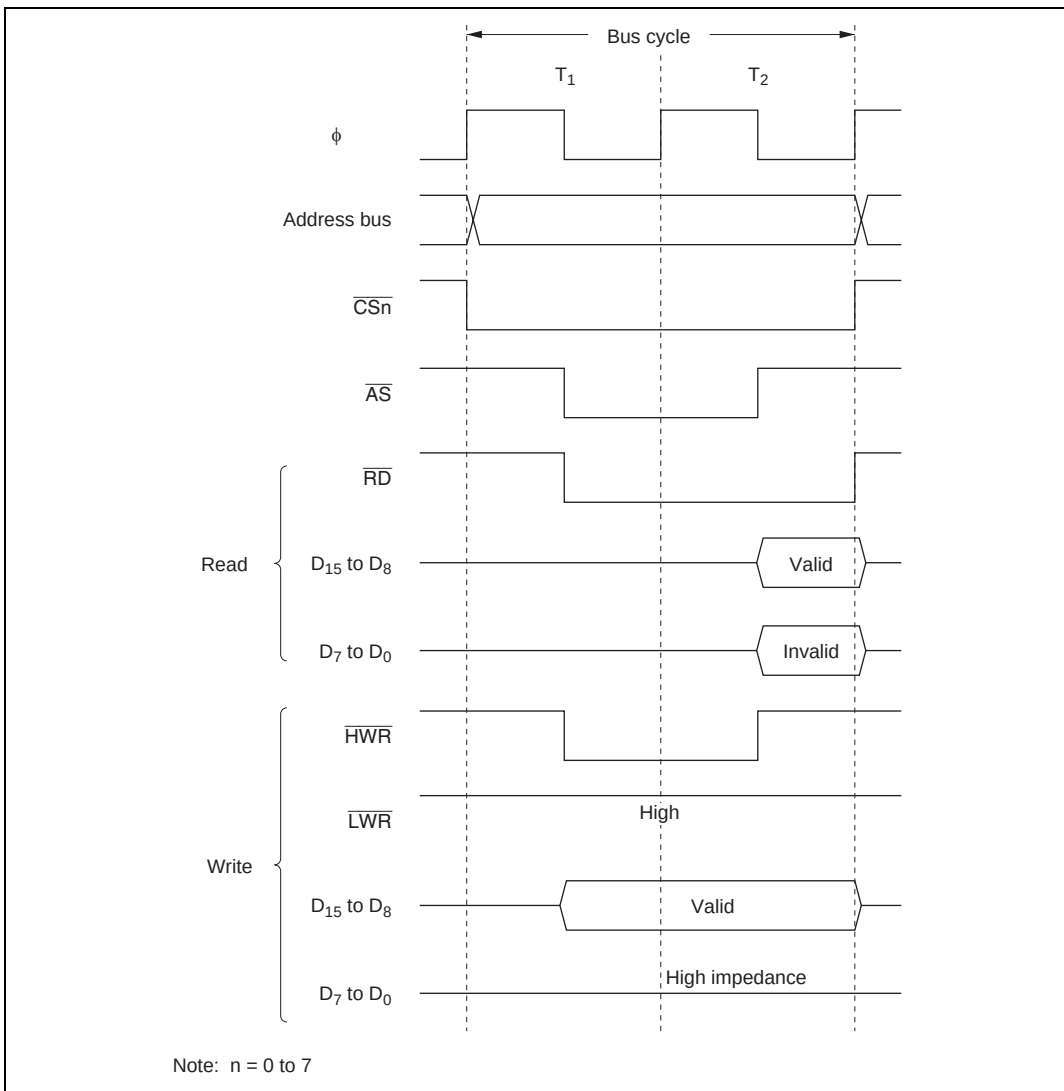

**Figure 6.6 Bus Timing for 8-Bit 2-State Access Space**
**8-Bit 2-State Access Space:** Figure 6.6 shows the bus timing for an 8-bit 2-state access space. When an 8-bit access space is accessed, the upper half ( $D_{15}$  to  $D_8$ ) of the data bus is used.